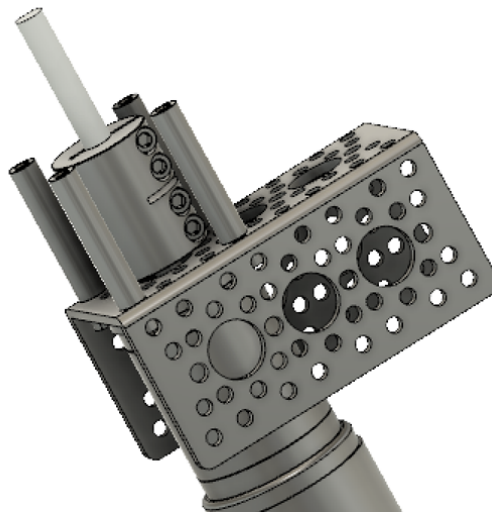

Figure 3: Shaft coupler installation
3. **Shaft Coupler/Standoffs Attachment:** Using the shaft coupler **S38**, attach the motor shaft to the 0.25 inch D-shaft **S15**. Figure 3